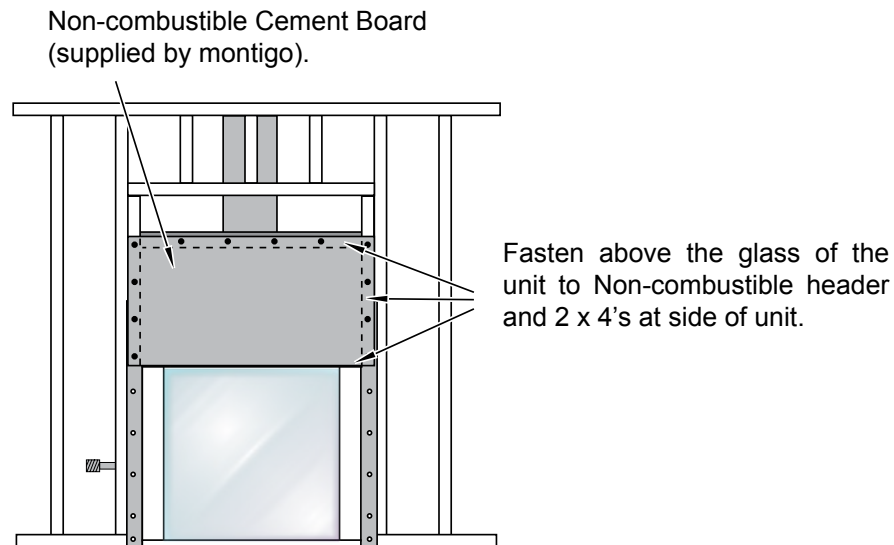

Figure 3. Non-combustible Cement Board the Fireplace, (supplied by Montigo).
Step 1. As shown in Figure 3; Use Non combustible Cement board, supplied by Montigo, screw to Non-combustible Header and 2 x 4's